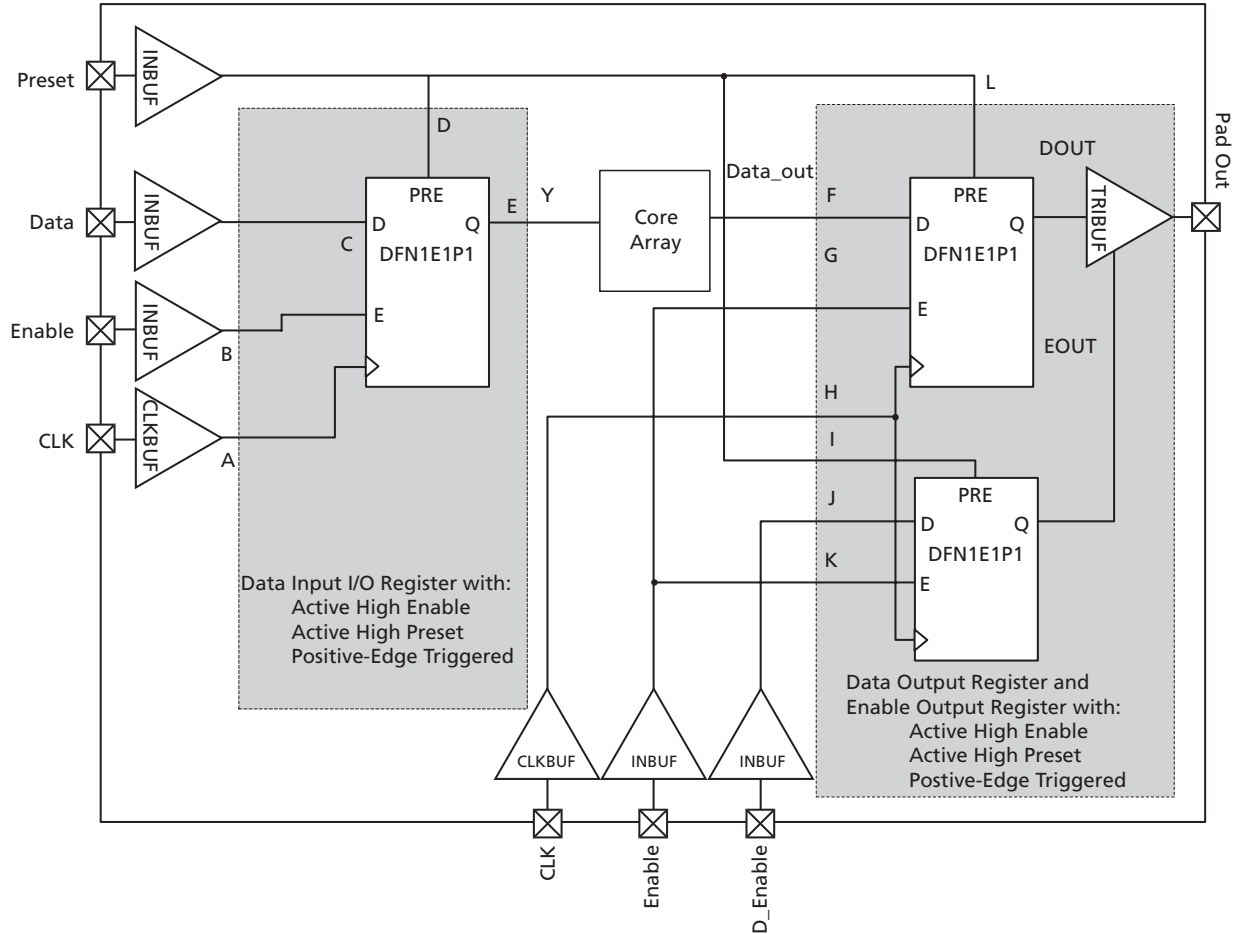

Figure 2-15 • Timing Model of Registered I/O Buffers with Synchronous Enable and Asynchronous Preset
* See Figure 2-15 on page 2-52 for more information.